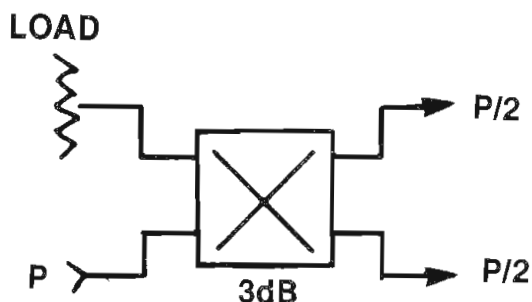

Figure 4. For comparison, the power divider takes a single input and divides it equally between two outputs.
reciprocal of a power divider. The power divider shown in Figure 4 equally separates the input power (P) into two half power (P/2) outputs. This analogy is appropriate because, for any lossless 4-terminal device, the law of reciprocity applies. Consider the combiner shown in Figure 5. The power applied to the two input terminals is summed and appears on a single output. The output (assuming equal inputs) is then twice the power of either input.